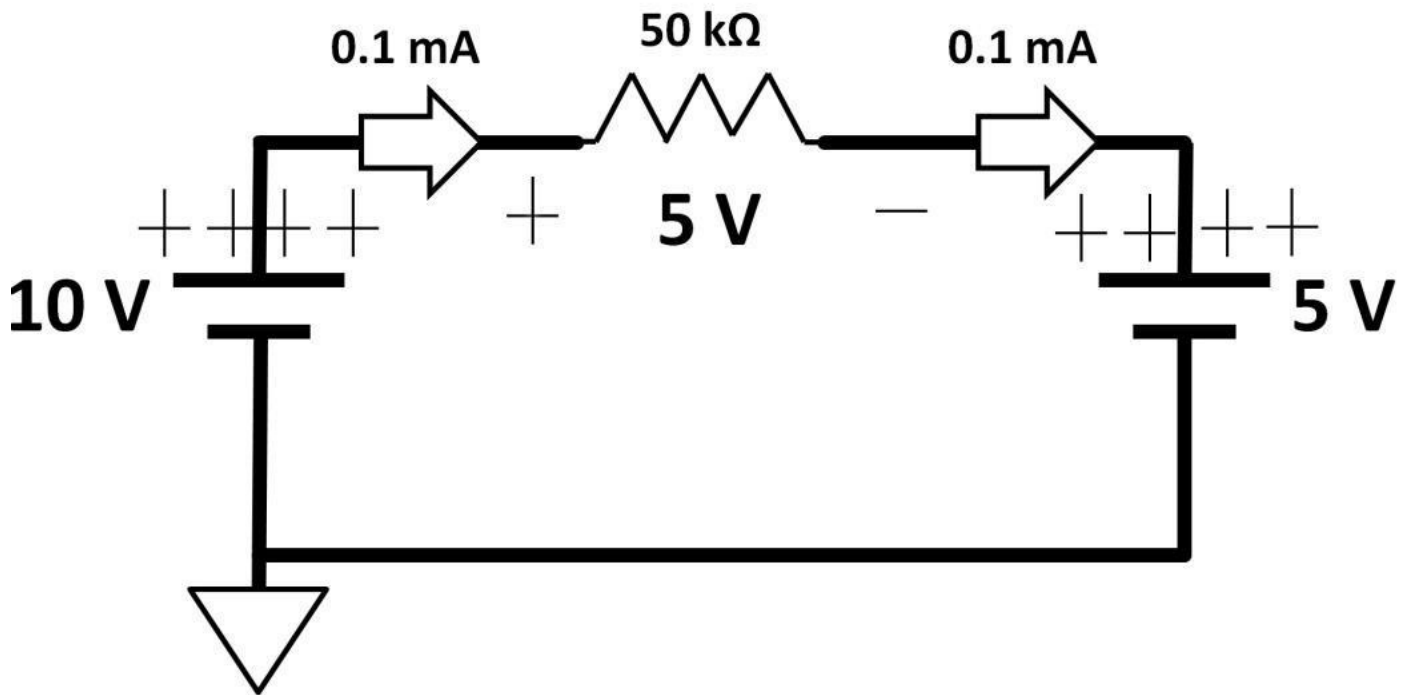

Figure 1.26: Current flow
3) Show current flow direction and amount of current, if there is any in figure 1.26. This simple question tests the concept of potential difference and Ohm's law. The voltage drop across the 50 kΩ resistor is the difference between 10 V and 5 V, i.e., $10\text{ V} - 5\text{ V} = 5\text{ V}$. Apply Ohm's law:
Figure 1.26 illustrates the current flow direction from higher potential to lower (left to right). Notice the two horizontal lines symbol representing voltage source symbol.